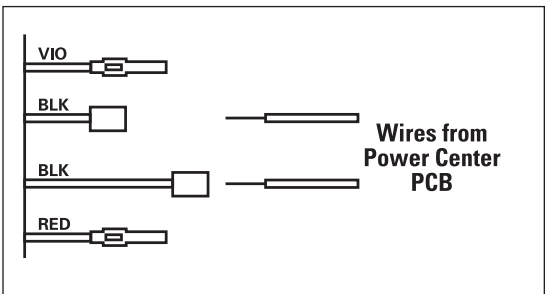

Figure 3-16 — Wiring with Panel Mounted Transceiver
3. Connect two #14 gauge wires, designed for use in hot environments, to the two brown wires, marked heater connection, on the panel-mounted receiver in the Mini-Wave Control Center and attach the other end to the two black wires on the heater. (See Figure 3-16.)